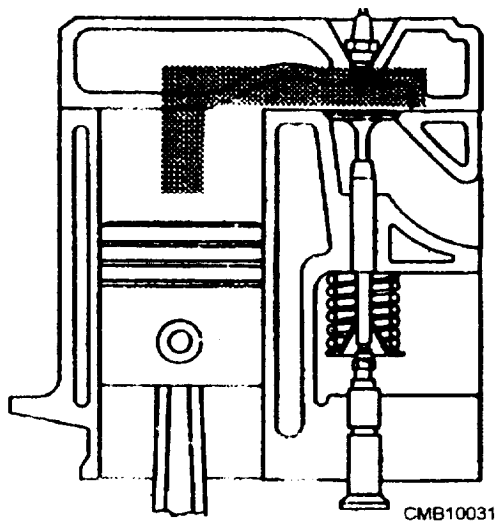

Figure 2-11.—L-head engine.
- **L-HEAD** (fig. 2-11)—The intake and the exhaust valves are both located on the same side of the piston and cylinder. The valve operating mechanism is located directly below the valves, and one camshaft actuates both the intake and the exhaust valves.